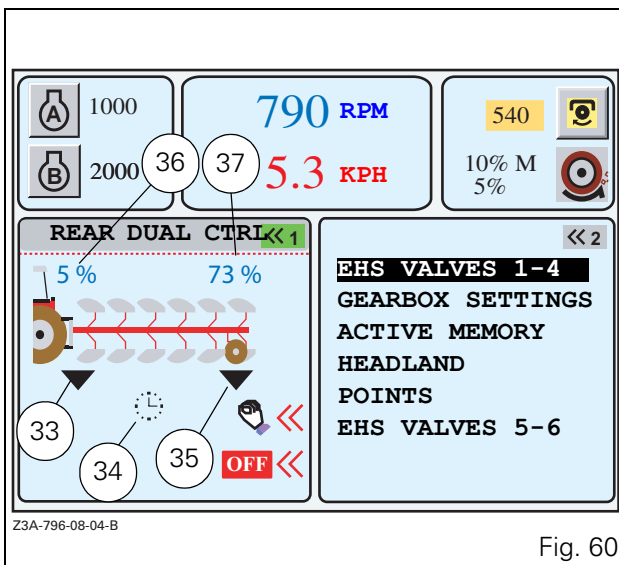

Fig. 60
- Validate by pressing the encoder or the key <<1. The window (Fig. 60) is displayed.